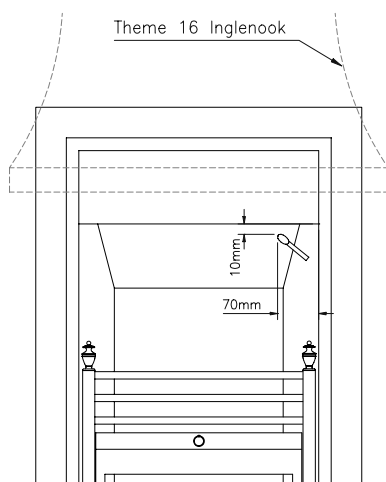

Fig. 16
3. After approximately 5 minutes place a smoke match 70mm from the right hand side, inside edge of the trim, 10mm below and 10mm within the opening of the fire as shown in Fig. 16, 17a and 17b. Ensure that the smoke is drawn into the fire aperture. If spillage is detected, the cause must be discovered and the fault corrected. If the cause cannot be corrected disconnect the gas supply to the appliance and seek expert advice. **NOTE: DO NOT HOLD THE SMOKE MATCH IN ANY OTHER POSITION.**